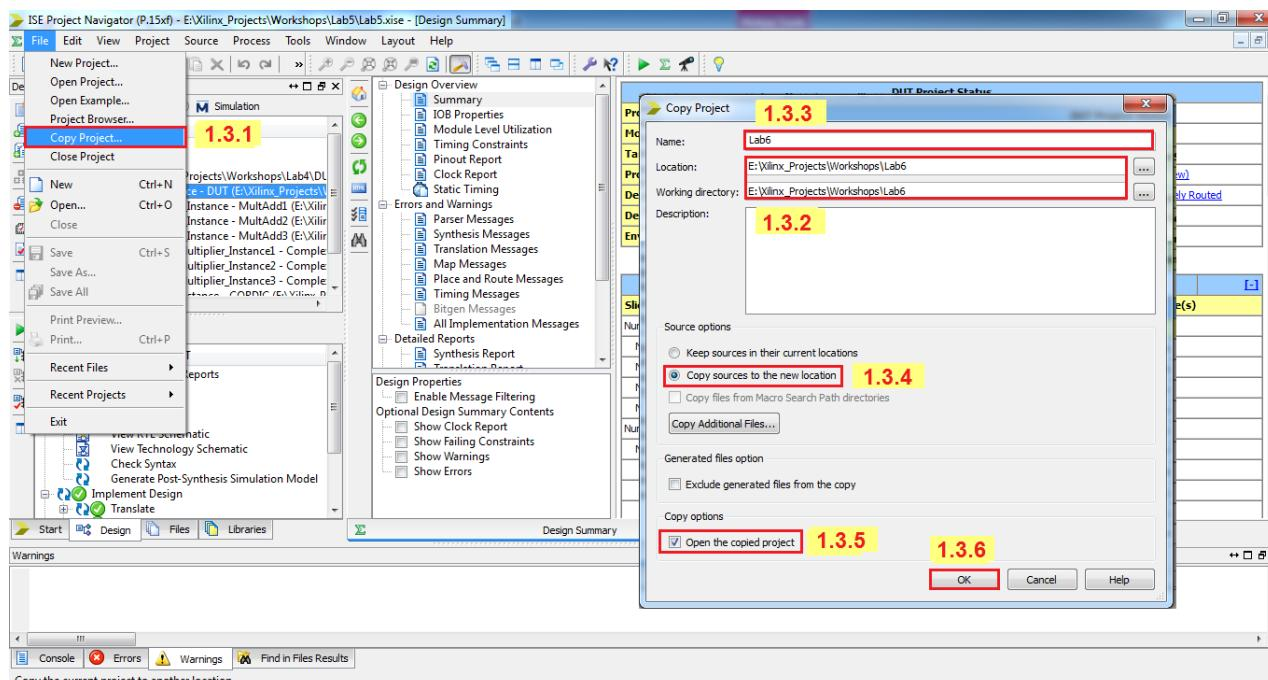

Figure 4.
1.3. Copy the project (Figure 4)